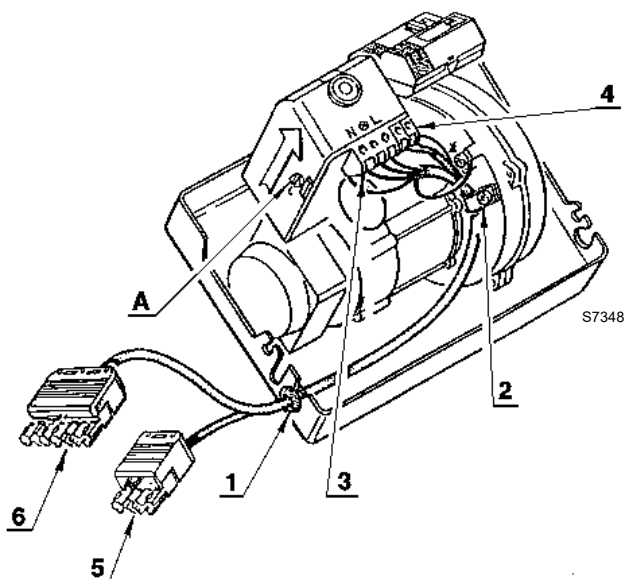

Fig. 16
To remove the control box from the burner, loosen screw A (Fig. 16) and pull towards the arrow.
**Run of the electrical cable (Fig. 16)**